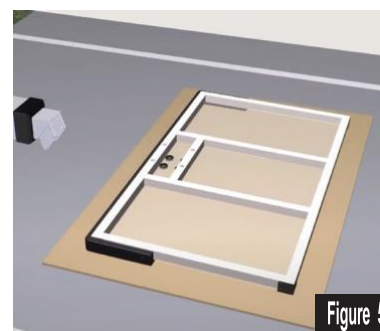

Figure 5
- Assemble the bolt plate as shown in Figure 5.
- A few feet in front of the Base Pole, place the Backboard (Part A) on top of cardboard, a blanket or the provided foam (this will prevent the backboard from getting scratched). See Figure 5.